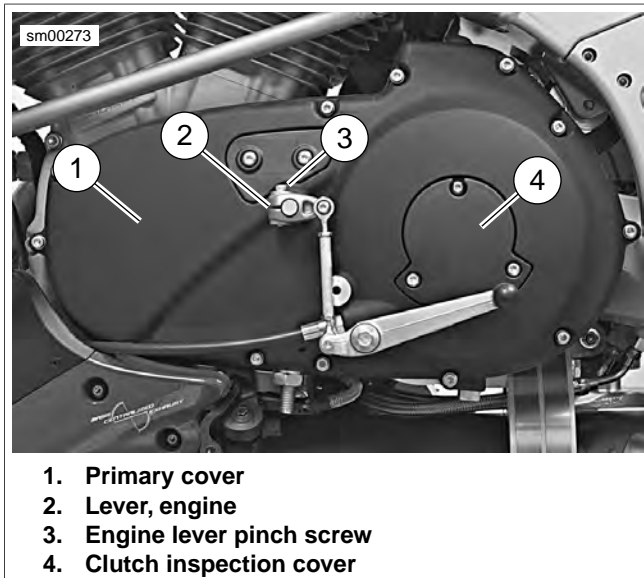

Figure 5-7. Installing Primary Cover (Typical)
11. See Figure 5-7. Install clutch inspection cover (4) with **new** gasket and three TORX screws with washers. Tighten screws to 84-108 **in-lbs** (10-12 Nm).